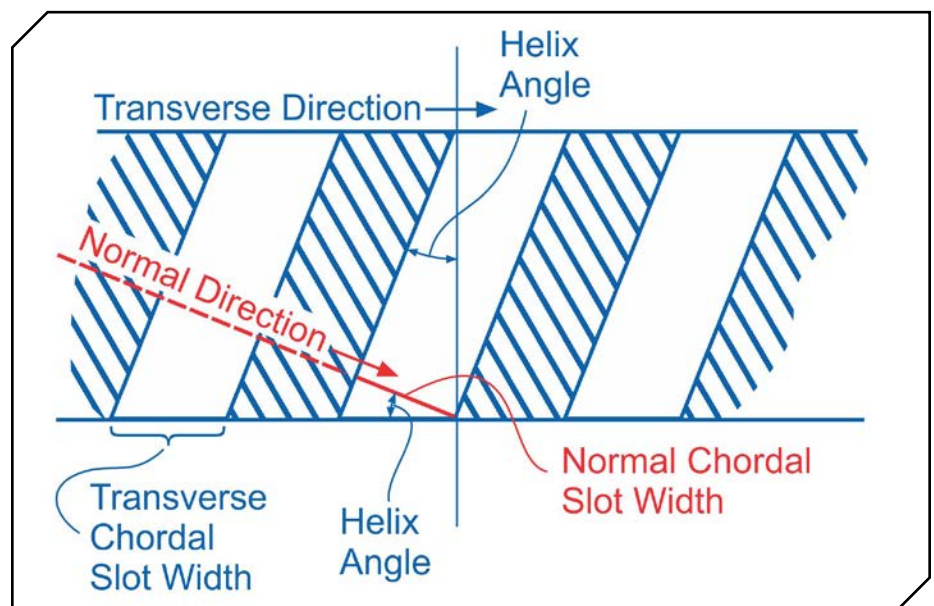

Figure 1 Transverse and normal direction.
**Expert response provided by Dr. Hermann J. Stadtfeld, Gleason Corp.** A given helical gear is defined e.g. with a certain outer diameter, a pitch diameter and a root diameter. Regarding the number of teeth, the helix angle and the face width, it is important to define their basic dimensions. The transverse module can be calculated by dividing the pitch diameter by the number of teeth. The transverse module, multiplied with the cosine of the helix angle delivers the normal module. Figure 1 shows the difference between the directions of the normal plane and the transverse plane in a top view onto the generating rack.